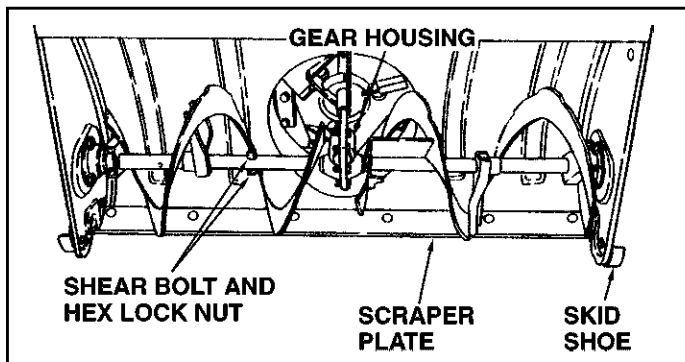

FIGURE 22
CHECK SCRAPER AND SHOES FOR WEAR (Refer to figures 22 and 23 on page 16.)
- If the augers will not turn, check to see if the shear bolts have sheared. See figure 22. Two replacement shear bolts and hex lock nuts have been provided with the snow thrower. For future use order part number 710-0891 shear bolt and number 43064 hex lock nut.